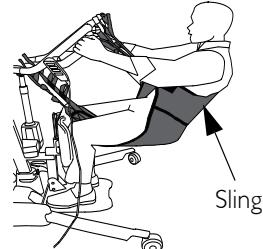

FIGURE 4.2 Lifting the Patient
NOTE: For this procedure, refer to FIGURE 4.2 on page 18.
- Instruct the patient to hold onto the hand grips on both sides of the stand assist lift (Detail "A" of FIGURE 4.2).
4. If transferring from a wheelchair, engage the brakes on the wheelchair (Detail "B" of FIGURE 4.2).
5. Press the UP arrow button on the hand control to raise the patient above the surface (bed, wheelchair or commode). The patient's weight will be fully supported by the stand assist lift (Detail "C" of FIGURE 4.2).